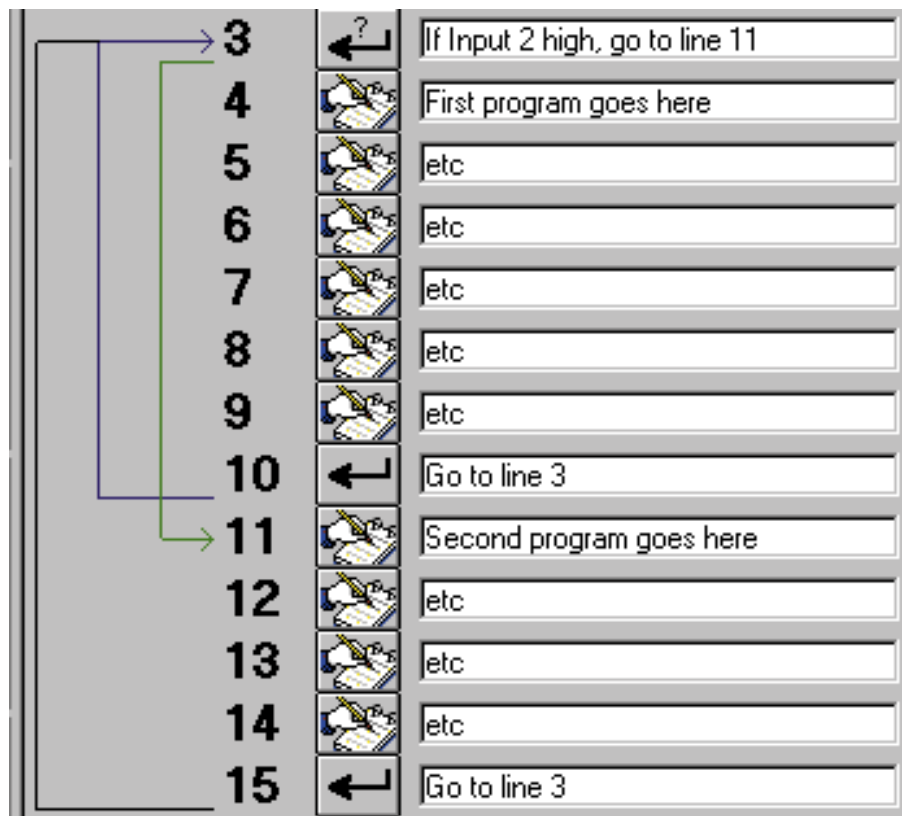

Figure 72
3. It allows the use of multiple programs within the 100 line program space. It may be that the system to do is two completely different things depending on an input. If each of these tasks requires 4 instructions, the program should look like Figure 72.